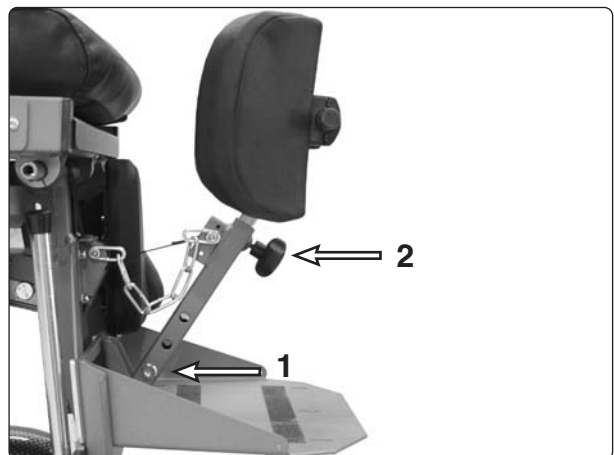

Fig. 44. Setting the height of the knee stops.
1. Loosen the knee stops locking knob, see Fig. 44:2.
2. Move the traversing positioning screw on the leg rest to an appropriate position, see Fig. 44:1.